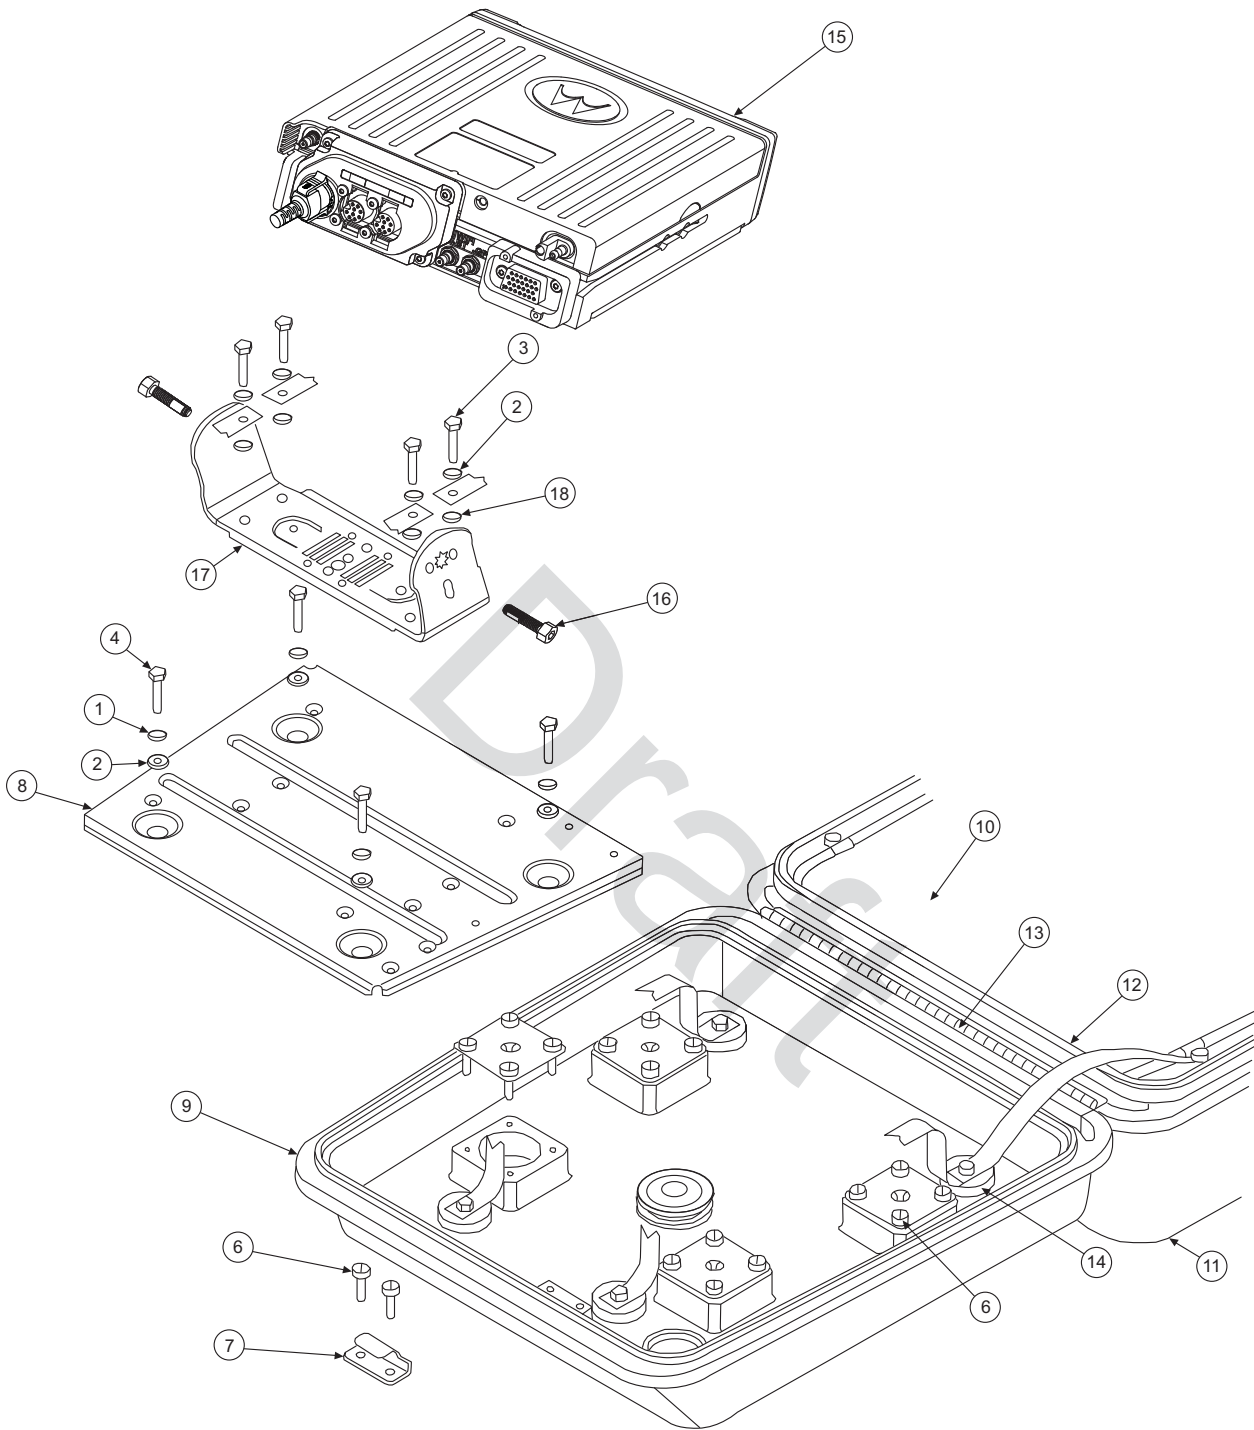

Figure 5-20. Installing the Transceiver
2. The weather-resistant enclosure is mounted to the universal mounting plate using shock mounts. Assemble the shock-mount components exactly as shown in Figure 5-18. Be sure to install ground straps between the shock-mount and the transceiver trunnion mount, and install one 7-1/2-inch ground strap between the right rear mount and the enclosure lid's antenna ground plane 0 (shown in Figure 5-18 and in Figure 5-20).
6. Figure 5-20 is an exploded view of the enclosure; it shows details that will help to understand how the enclosure is mounted. After the enclosure is completely mounted, check for proper ground connection—continuity between the antenna ground plane and the motorcycle frame.
Install the transceiver in the weather-resistant enclosure as follows (see Figure 5-20).
1. Install the mounting trunnion and loose ends of the four ground straps to the radio-mounting plate, using four screws, flat washers, and external-tooth lock washers (see Figure 5-20). The ground straps must be sandwiched between the flat washers and lock washers. The lock washer must be against the trunnion. The flat washer must be under the screw head.